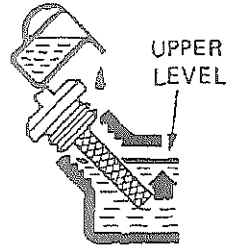

Figure 14- Adding oil
3. Using a funnel, add 30W, 4-stroke engine oil. When full, the oil level should come close to the top of the oil fill opening (see figure 14).